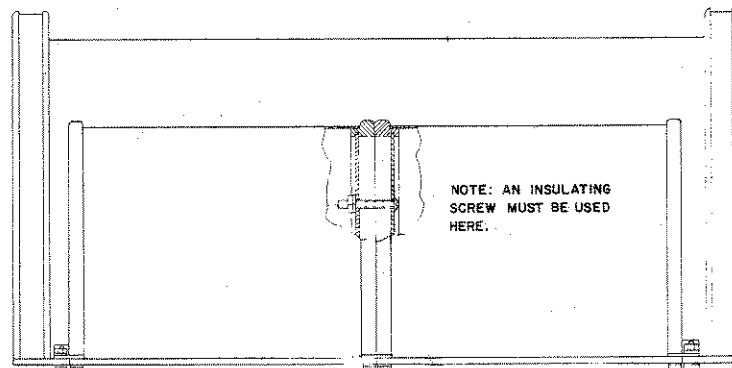

Figure 2-2. The Type 1620, top view.
2.2.2 MOUNTING THE TYPE 1620-A, -AP. The Type 1311 Oscillator is an integral part of the Type 1620-A, -AP Capacitance-Measuring Assembly. To assemble the Type 1620-AP follow the instructions in the instruction sheet supplied with the Type 1232-P2 Preamplifier. Then assemble the Type 1620-A, proceed as follows (see Figure 2-2):